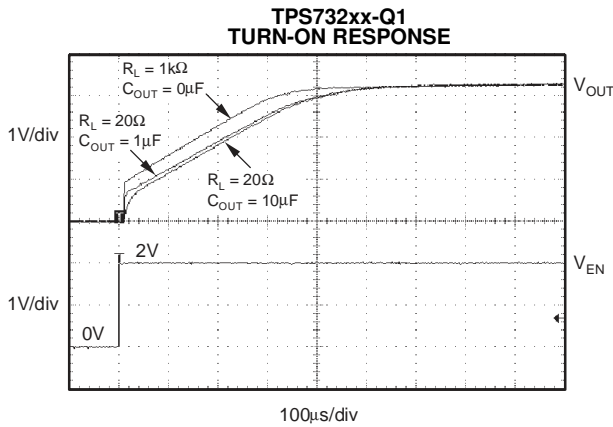

Figure 22.
The enable pin (EN) is active high and is compatible with standard TTL-CMOS levels. A V_{EN} below 0.5 V (max) turns the regulator off and drops the GND pin current to approximately 10 nA . When EN is used to shutdown the regulator, all charge is removed from the pass transistor gate, and the output ramps back up to a regulated V_{OUT} (see Figure 22).